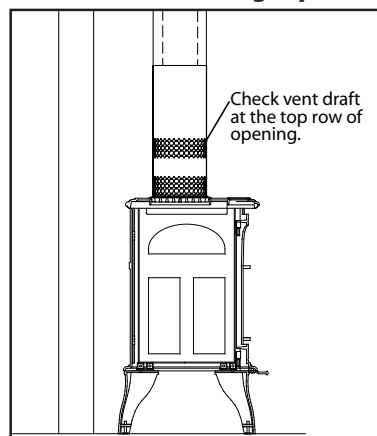

Figure 42: Draft test place.
4. After a minimum of 10 minutes operation, test the chimney draft with a smoke match at the top row of the pattern to confirm that there is adequate draft or 'pull' at the openings around the body of the Drafhood Adaptor, as shown in Figure 42.